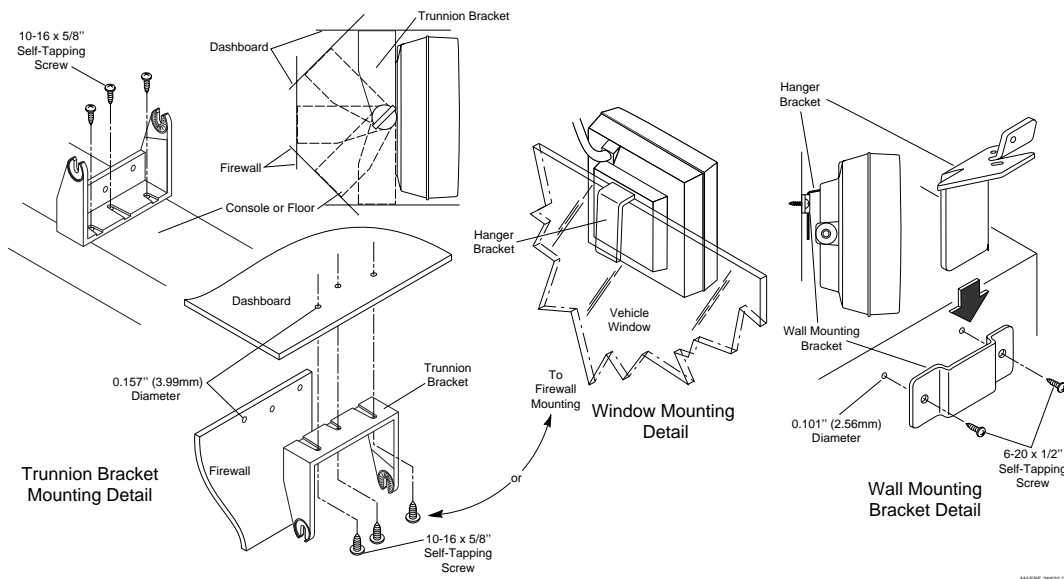

Figure 1. Physical Installation Details
1.1 The speaker/amplifier consists of a 6-watt integrated circuit amplifier and a 2.0 ohm speaker, enclosed in a rugged, weather -resistant housing. The housing is designed to be mounted either inside or outside (Please see the Window Mounting Bracket Detail, Figure 1) of a schoolbus, truck, emergency van, or other similar vehicle.
1.3 The speaker/amplifier includes a trunnion bracket, hanger bracket, and wall mount bracket. These brackets enable the speaker to be mounted in a variety of different ways. Refer to Figure 1.
2.2 Trunnion Bracket Installation Procedure (Refer to Figure 1.)
2.3 Wall Mount Bracket Installation Procedure (Refer to Figure 1.)